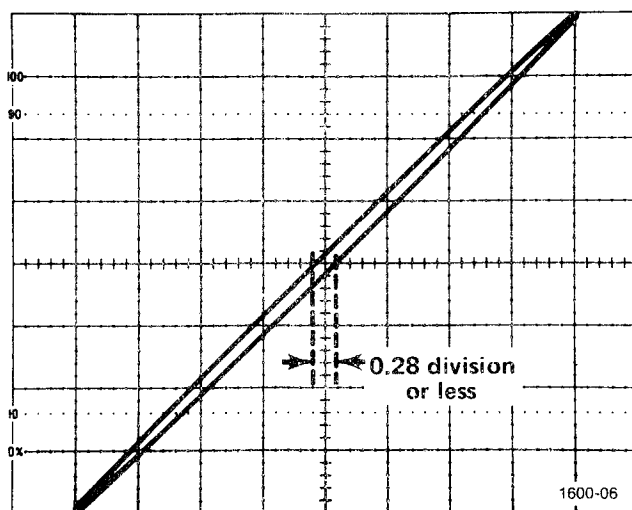

Fig. 2-5. Typical display when checking X-Y phase shift.
e. CHECK - CRT Lissajous display for an opening at the center vertical line of 0.28 division or less (indicates 2 degrees or less phase shift; see Fig. 2-5).